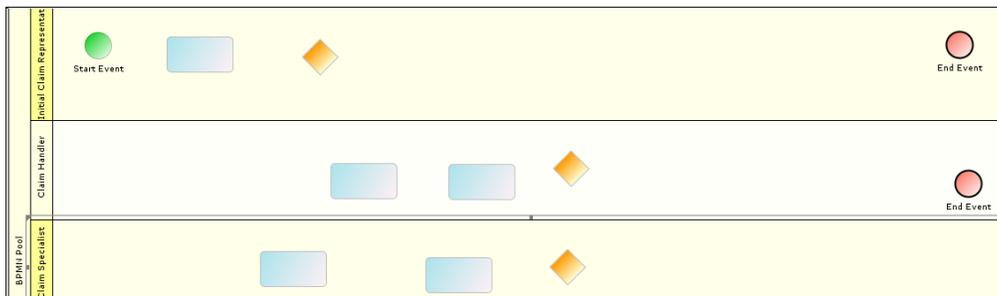

Figure 10: Dragging BPMN Gateway into Swim Lane
4. Click **Gateway** element (  ) in the Palette and drag in the required swim lanes (see Figure 10).